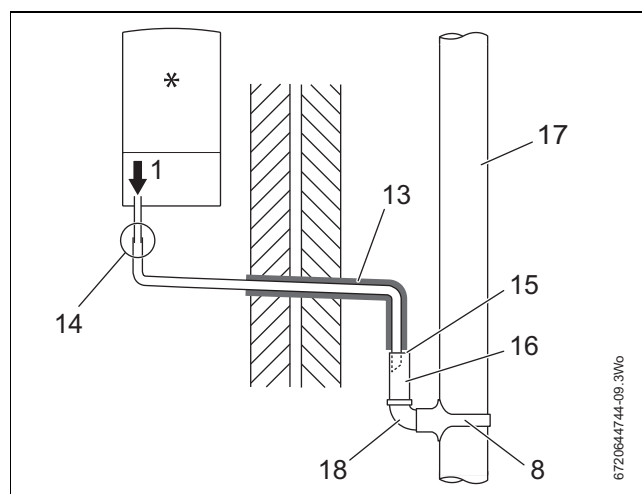

Fig. 14 Disposal into a rainwater down pipe
Continued - Key to condensate illustrations, figures 14, 15, 16 & 17
- Refer to figure 14 when a rain water down pipe is used to dispose of condensate.